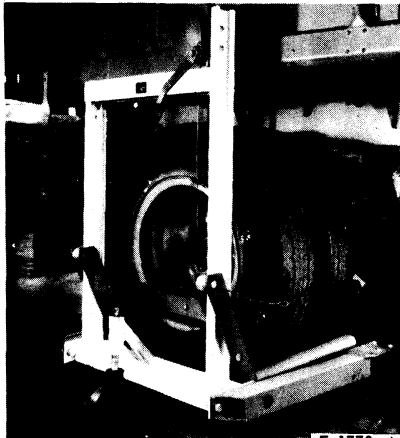

FIG. 4 Typical Wheel Jack
6. With the type of wheel jack shown in Fig. 4, raise the wheel to the point that all weight is removed from the wheel bearings.
7. With the type of wheel jack shown in Fig. 4, raise the wheel so that all wheel weight is removed from the wheel bearings.